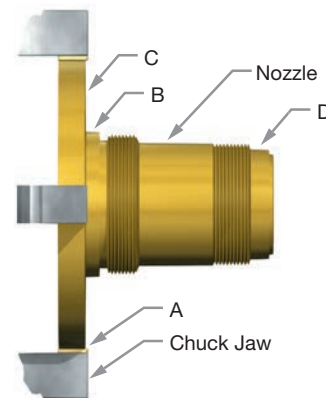

Figure 26: Nozzle Positioned in a Jaw
1. Set up the V-block support (see Figure 26) as follows:
- Place the ball-pointed spindles in a piece of material B that has been recessed to permit free rotation of the spindle (15). For hollow spindles, a ball-pointed support is required.